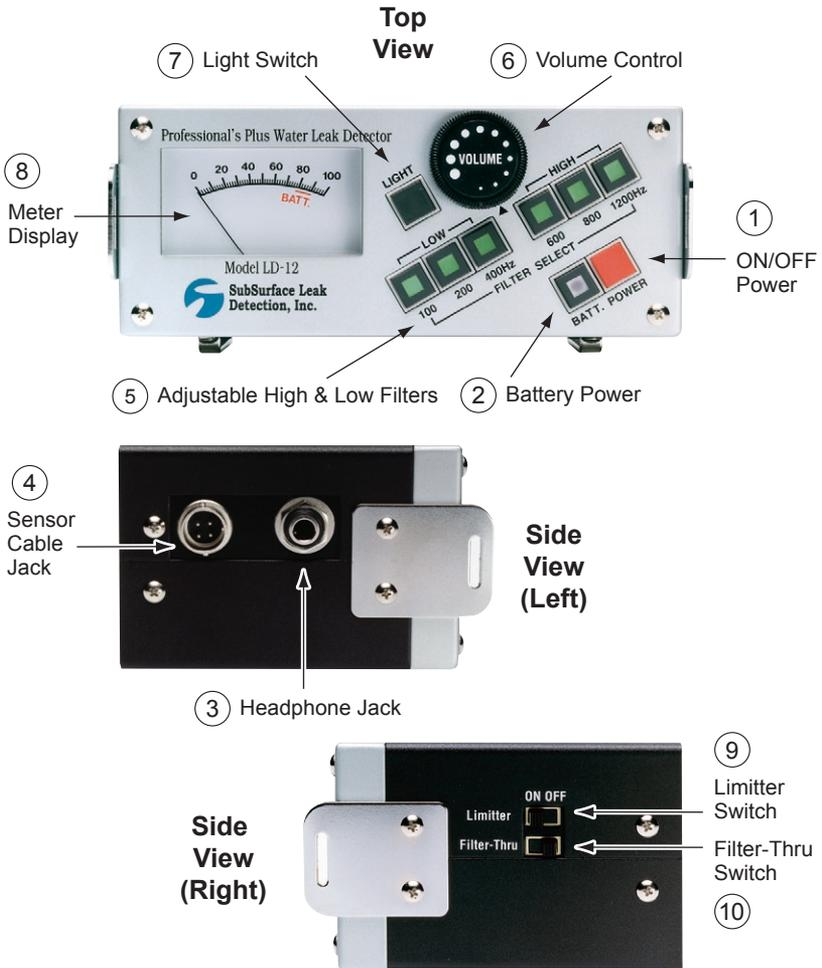

Figure 3-1 Amplifier Connectors and Controls
Figure 3-1 shows the amplifier:
Figure 3-1 shows the volume control knob on the amplifier. Turn the volume control knob clockwise to increase the sound level. Turn the volume control knob counter-clockwise to decrease the sound level. Always adjust the volume control to a low level (10% to 25%) when first putting on the headphones and before depressing the mute switch. Increase the volume gradually until the water leak sounds can be heard easily but without distortion. Reduce the volume if there is distortion of the sound.
Figure 3-1 shows the amplifier's meter display of the sound's intensity. The meter's display of the intensity corresponds to the sound's loudness in the headphones: a low display for quiet, soft sounds and a high display for loud sounds. The purpose of the meter display is to assist the user when comparing the sound's intensity when the user's hearing has difficulty distinguishing which
Figure 3-1 shows the three (3) low frequency filter switches and the three (3) high frequency filter switches. The three (3) low frequency filters are set at 100 Hz, 200 Hz and 400 Hz. If the 100 Hz filter switch is depressed, then all noises and sounds at 100 Hz frequency and lower are filtered out. If the 200 Hz filter or 400 Hz filter switches are selected, then all noises and sounds at these frequencies and lower are filtered out. The three (3) high frequency filters are set at 600 Hz, 800 Hz and 1200 Hz. If the 1200 Hz filter switch is depressed, then all noises and sounds at 1200 Hz frequency and higher are filtered out. If the 800 Hz filter or 600 Hz filter switches are selected, then all noises and sounds at these frequencies and higher are filtered out.
Figure 3-1 shows the LIGHT switch located on the amplifier's face between the volume control knob and the meter. The LIGHT switch allows the user to turn ON or OFF the meter backlight and the light switches for the filters.